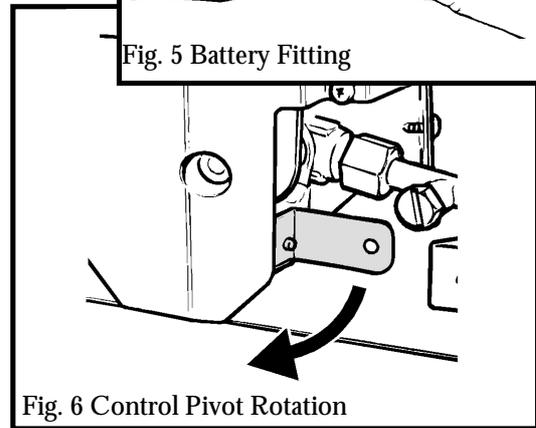

Fig. 6 Control Pivot Rotation
3.1.2 Rotate the control pivot bracket clockwise as far as it will go (see figure 6). This should close the ignition circuit.
8.4.2 Rotate the control pivot unit clockwise as far as it will go and hold in this position (see section 3.1.2 and figure 6). This should close the ignition circuit and (now that the gas is connected) simultaneously open the gas tap allowing the gas to flow to the pilot.